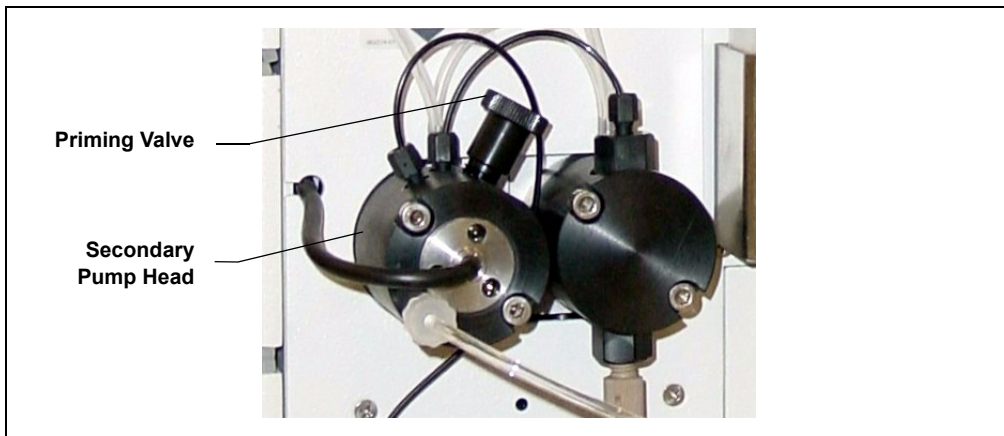

Figure 9-1. DP/SP Priming Valve
3. Open the priming valve on the secondary pump head (see Figure 9-1) by turning it one-half turn counterclockwise.